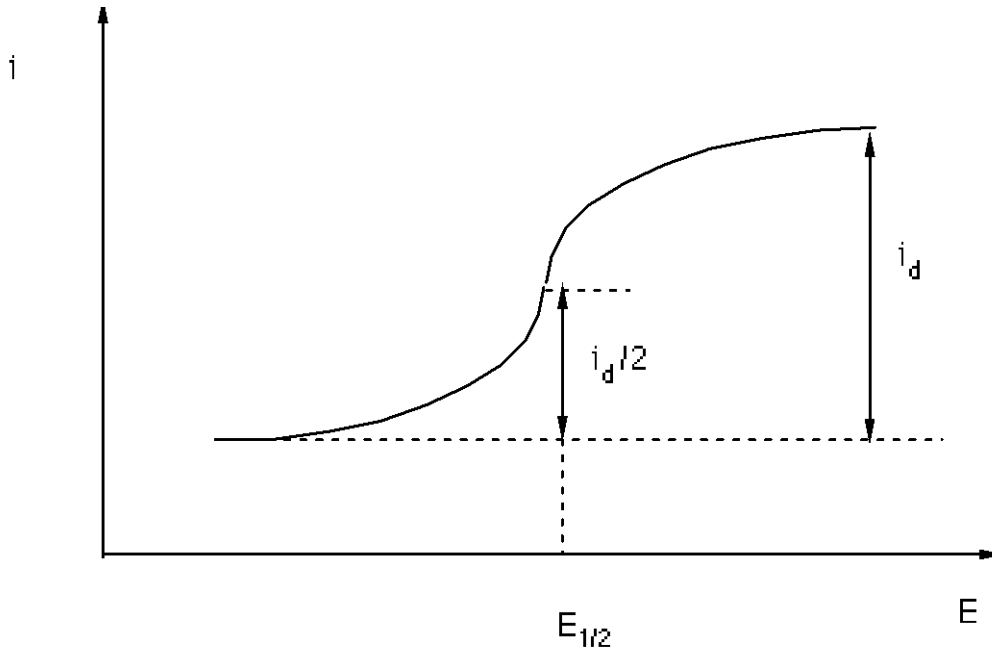

Figure 1.1 Diagram of a DC polarogram
If an electroactive species is capable of undergoing a redox process at the DME, then an S-shaped current-potential relation is usually observed. This is called a polarographic wave. Figure 1.1 illustrates the response obtained from a reduction reaction where the current (i) increases over a particular potential (E) range until it reaches a limiting value. The limiting current is the diffusion-controlled limiting current (i_d). This i_d is of interest in analytical measurements as it is proportional to the concentration of reactant. For a charge reaction
The half-wave potential $E_{1/2}$ is another important parameter of the DC polarogram. This is the potential at which the current reaches half of its limiting value (Figure 1.1). The value of half-wave potential is usually independent of concentration and is characteristic of the electroactive species. Therefore it can be used for qualitative characterization of the species, and is the foundation of qualitative analysis.